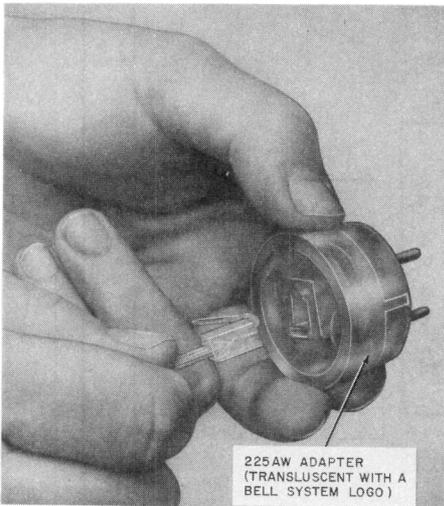
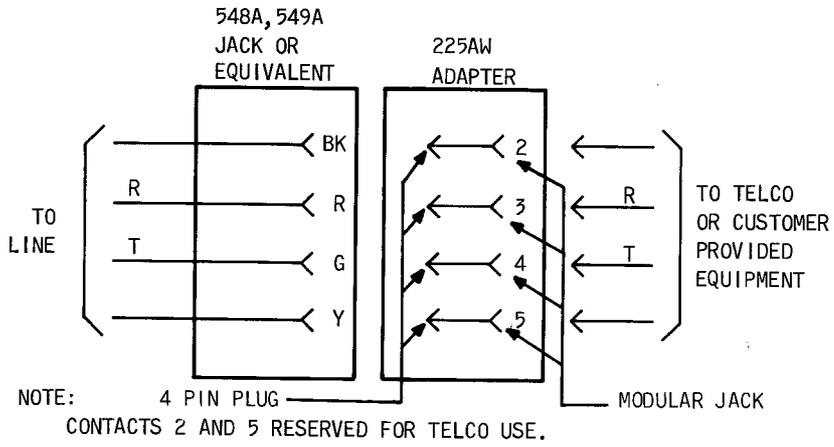

Fig. 1—225AW Adapter
Fig. 4—Connections for USOC RJ1X, 4-Pin Jack to Modular Jack
1.02 This section is reissued to revise Fig. 1, 2, 3, 4, and 6 to indicate new Bell System Logo.
2.01 USOC RJA1X: This arrangement uses a translucent 225AW adapter (Fig. 1) with a Bell System Logo to provide physical compatibility between the modular plug on the CPE and an existing 4-prong jack such as a 548A or 549A (Fig. 4). Tip and ring are always connected through to the CPE. A and A1 or other leads will appear in the adapter if connected in the existing jack.